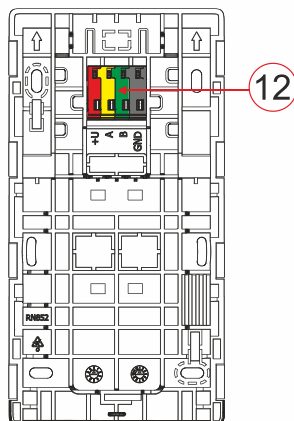

Figure 3 – mounting pad: 12 – terminal
1. Remove the mounting pad (Fig. 3) of the keypad. If it cannot be removed easily, open the locking mechanism, see chapter "Keypad disassembly".
2. Install mounting box KU68 (13) and insert the power supply (14), recommended type HLK-PM12JBT – see *Technical specifications*. In the mounting pad, break out the blank of appropriate slot, pull the power cable through, and then screw the mounting pad of the keypad to the designated place, preferably on a solid base (wall). Select the installation height of the keypad with respect to the height of the users. The ideal height for good readability and control is at eye level. It is not recommended to mount at a height consistent with electrical switches (100-110 cm).
3. Insert the backup battery (9) to the keypad and plug it to an appropriate connector (8), recommended type BAT-3V7-2500, see *Technical specifications*".
4. Connect the individual wires of the power cable to the terminal (12) as follows: